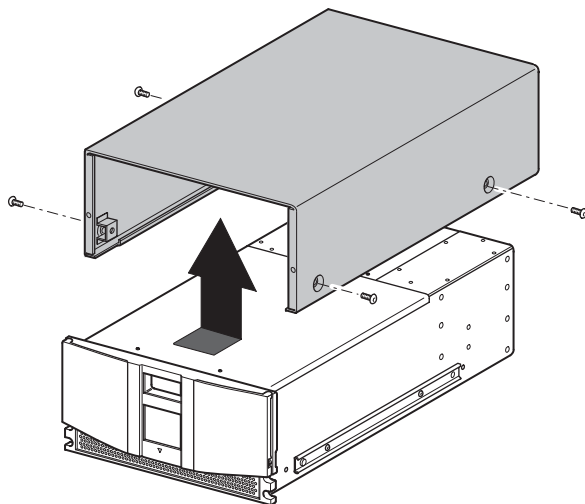

Figure 2-5: Removing the outside cover
1. Remove the four screws that secure the cover to the library chassis (see Figure 2-5).